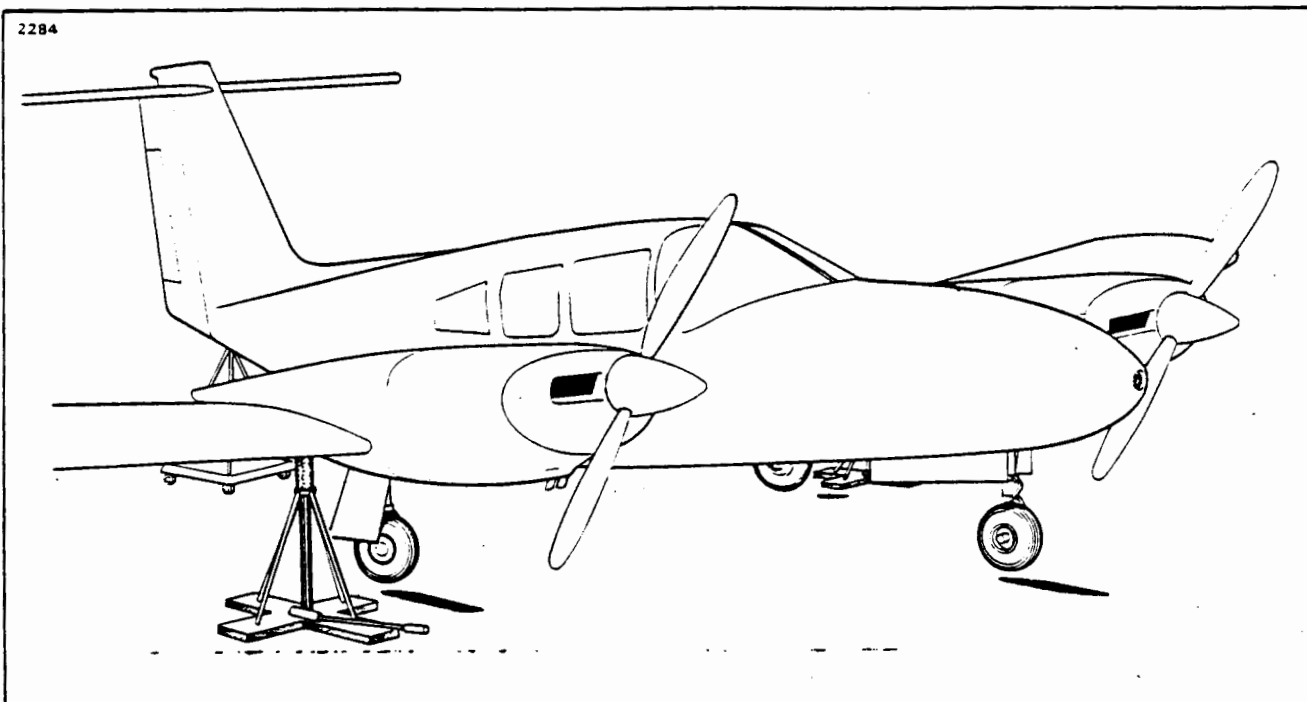

Figure 7-1. Jacking
2. Attach a tail support to the tail skid. Place approximately 600 pounds of ballast on the support to hold the tail down. (Refer to Figure 7-1.)